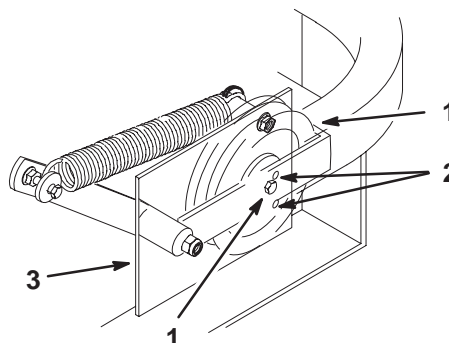

Figure 75
Important Check and make sure the belt is installed into both the front and rear belt guides (Fig 75).
- Check the belt tension. The spring loaded idler center bolt needs to be near the top alignment hole in left support plate (Fig 75).